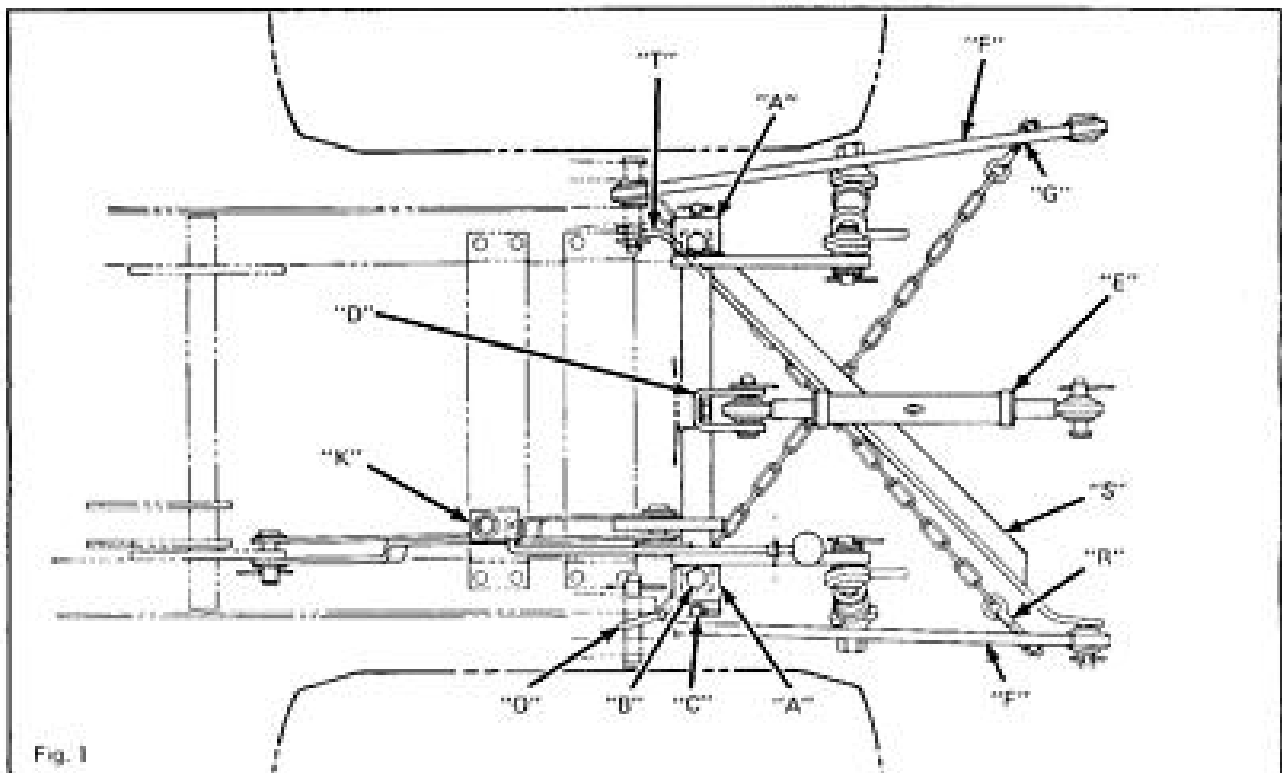

Fig. 1
1. Place pivot shaft supports (A) over the ends of the pivot shaft with the chamfer to the top.
2. Place the above assembly into the rear of the frame rails with the two arms on the left side of tractor and the long arm up. See Figure 1. Secure into place with hex capscrews 1/2-13 x 1 and lockwasher (B).
3. Install grease fitting (C) into each pivot shaft support.
Cross the chains so that the left-hand lower link assembly and right-hand chain is connected and the right-hand lower link assembly and left-hand chain is connected. Raise hitch to fully raised position and take out play in chains by adjusting lock nuts on eyebolts (R). Adjust chains so that there is approximately 20 inches (50 cm) inside between lower link assemblies. See Figure 1.
An anti-sway bar (S) Figure 1 is furnished with this hitch. An anti-sway bar is generally used when the attachment normally produces a side load. The anti-sway bar may be used when doing side hill plowing, but not contour plowing.
### TO ATTACH ANTI-SWAY BAR (FIGURE 1):